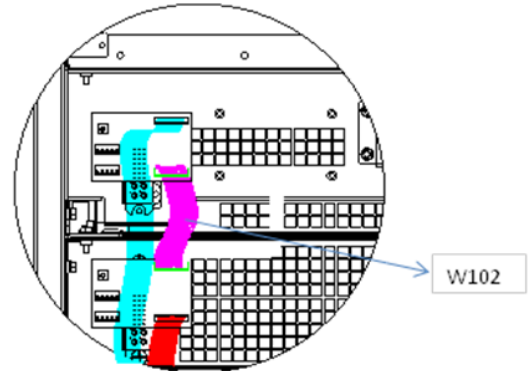

Fig. 36. Installation of Parallel Signal Board BJ (a)
The parallel signal board BJ is installed at the rear of the static switch power module. Refer to fig.36 and 37.
- Remove cable W102 as fig. 36